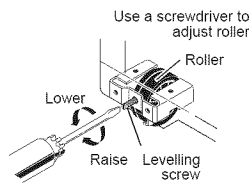

Figure 2.
- If your refrigerator has rollers with levelling screws, follow the steps shown in figure 2.